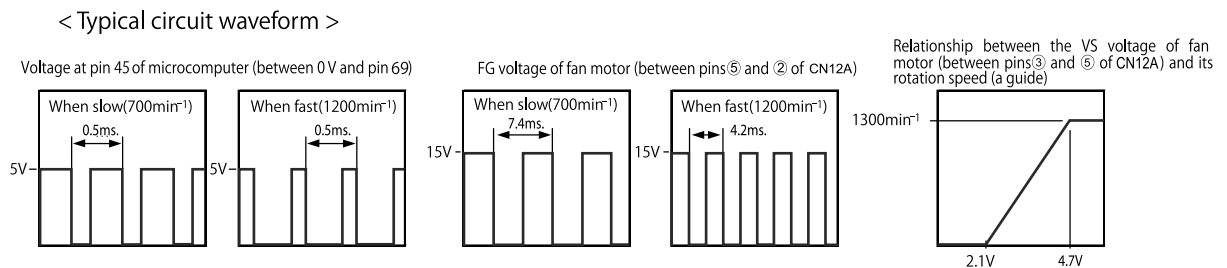

Fig. 2-2
- The indoor fan motor DC Voltage (VDC), Control Circuit Voltage (VCC), and Speed Control Voltage (VS) are supplied from connector CN12A. FG is a feedback signal for an indoor fan motor frequency of rotation speed.
- The VS is controlled by the microcomputer (IC1). The VS terminal undergoes an analog voltage that matches the LO pulse signal at pin 69 of the microcomputer (IC1). (See Fig. 2-2.)